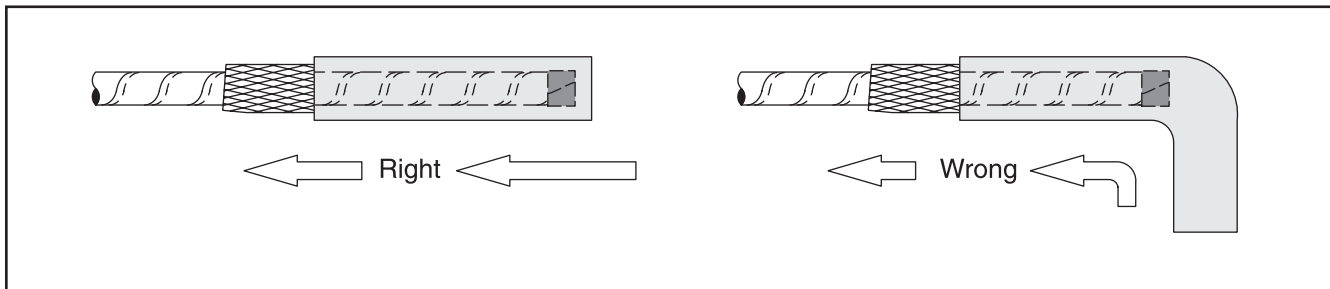

Figure 7
4.4 Guide one re-jacketing sleeve assembly over each cable phase leg (*Figure 7*).